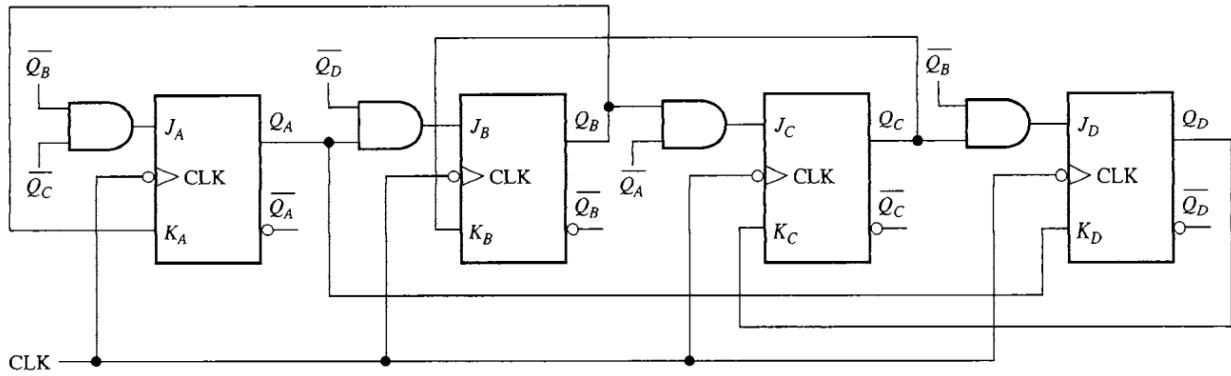

Figure 13.1
The method for analyzing a synchronous counter is a systematic tabulation technique. This method is illustrated for the counter shown in Figure 13.1. Begin by setting up Table 13.1. The table lists the outputs and inputs for each flip-flop in the counter.
- The counter used for half-stepping a stepper motor in the example of Figure 13.1 has a state diagram sequence that is shown in Figure 13.2. Beginning with state 1, sketch the  $Q_D$ ,  $Q_c$ ,  $Q_B$ , and  $Q_A$  outputs. (Hint: An easy way to start is to write the binary number vertically where the waveforms begin. This procedure is started as an example.)
6. Assume the synchronous counter in Figure 13.1 is “locked-up” in state 9. A quick check of power, ground, and clock indicate they are all O.K. Which flip-flop is the likely cause of the problem? Why?